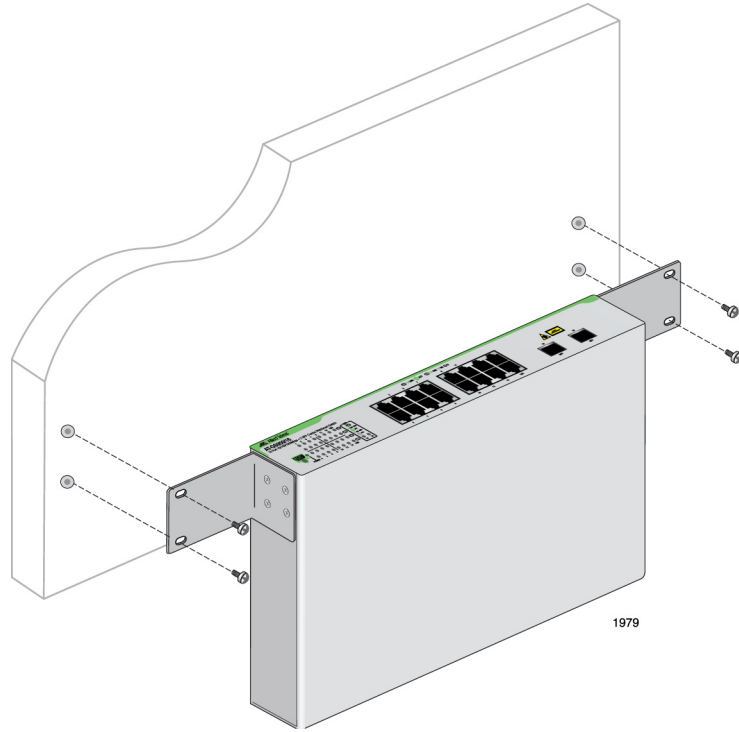

Figure 11. Securing the Switch to the Wall
6. While another person holds the switch at the wall location, secure it to the wall using the four wall mounting screws. See Figure 11 on page 36.